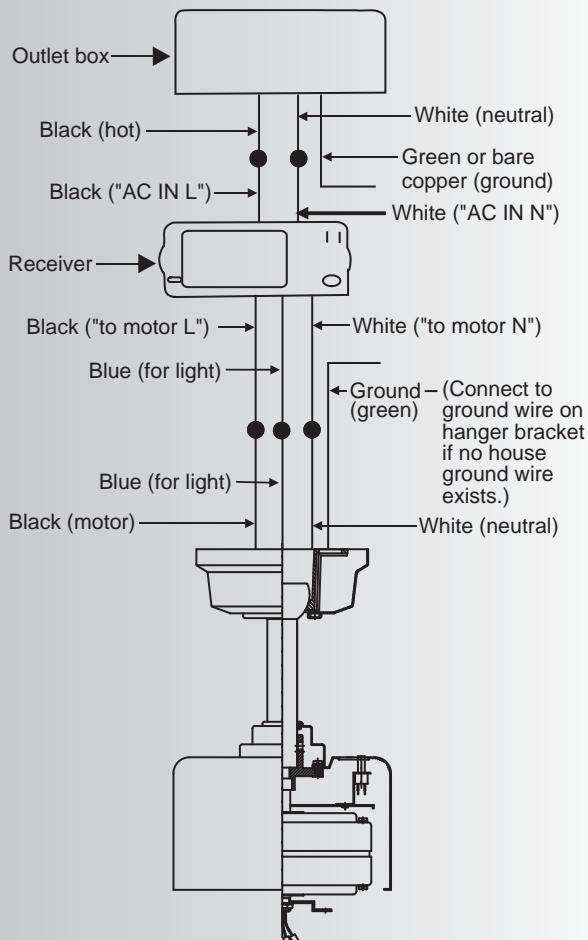

Fig. 14
**Step 2.** Motor to Receiver Electrical Connections: (Fig. 14)
### **Step 3. Receiver to Supply Wires Electrical Connections: (Fig. 14)**